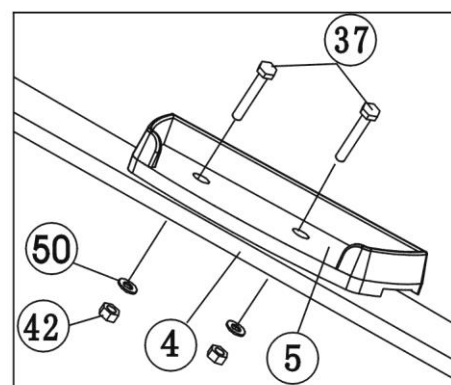

Figure 8
Attach the left Pedal (5) to the left Pedal support tube (4) with four M8x50 Bolts (37),  $\Phi 8$  Flat washers (50), and M8 Lock nuts (42). Do the same steps as above to assemble the right Pedal (5) to the right Pedal support tube (4). (Refer figure 8)